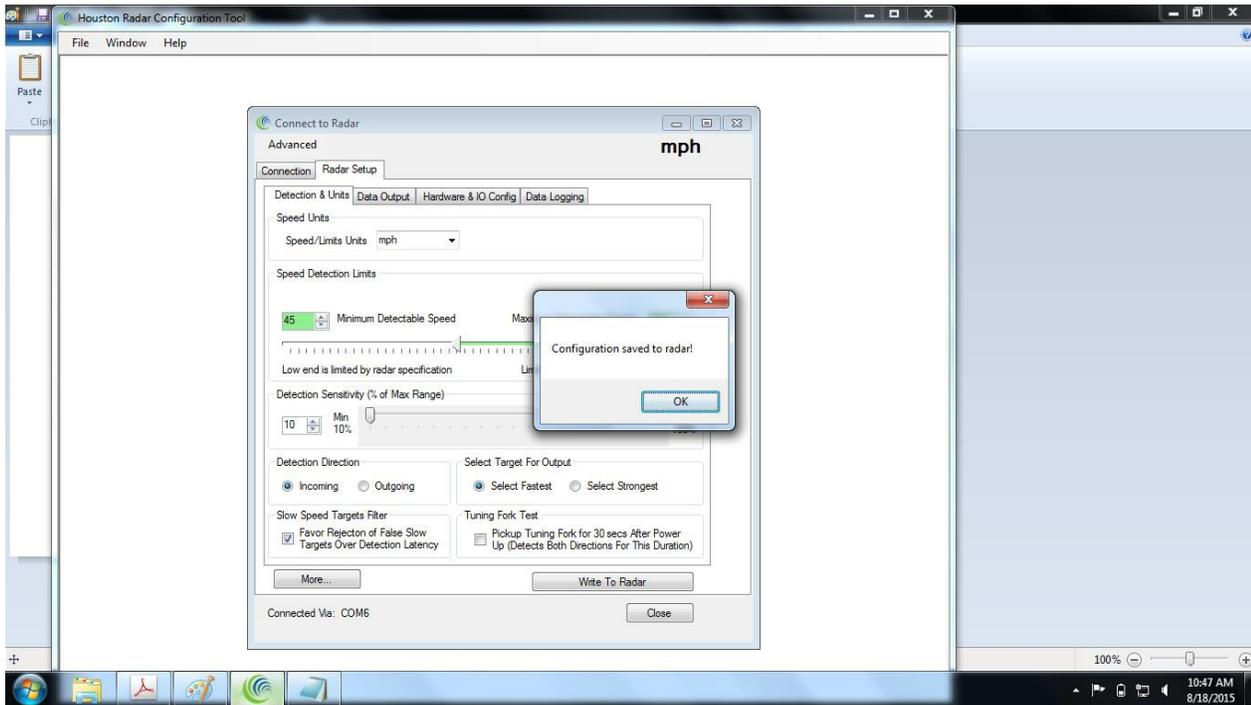

Figure 11
- 8.) Save the configuration to the Radar. **IMPORTANT-YOU MUST WRITE TO THE RADAR WHENEVER A CHANGE IS MADE IN THE GUI.** Click the Write to Radar button. If successful, you should see a screen like Figure 11.